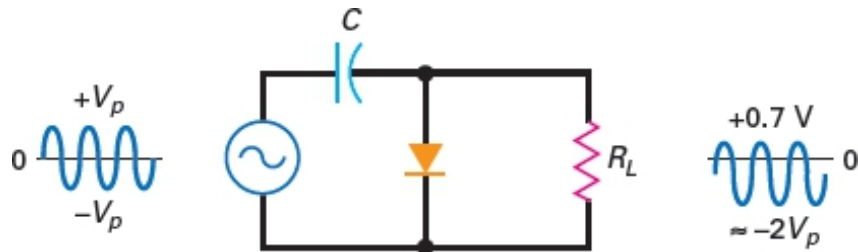

Figure-80 Negative clamper
- What happens if we turn the diode in Figure-79d around? We get the negative clamper of Figure-80. As you can see, the capacitor voltage reverses, and the circuit becomes a negative clamper.
- In Figure-80, the diode points downward, the same direction as the shift of the sine wave. This tells you that it's a negative clamper. In Figure-79a, the diode points up, the waveform shifts up, and you have positive clamper.